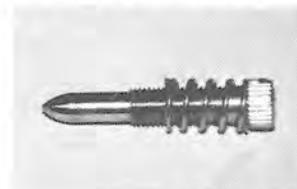

FIG. 2-15
7. Remove idle speed screw (flat blade screwdriver). (See Fig. 2-15).